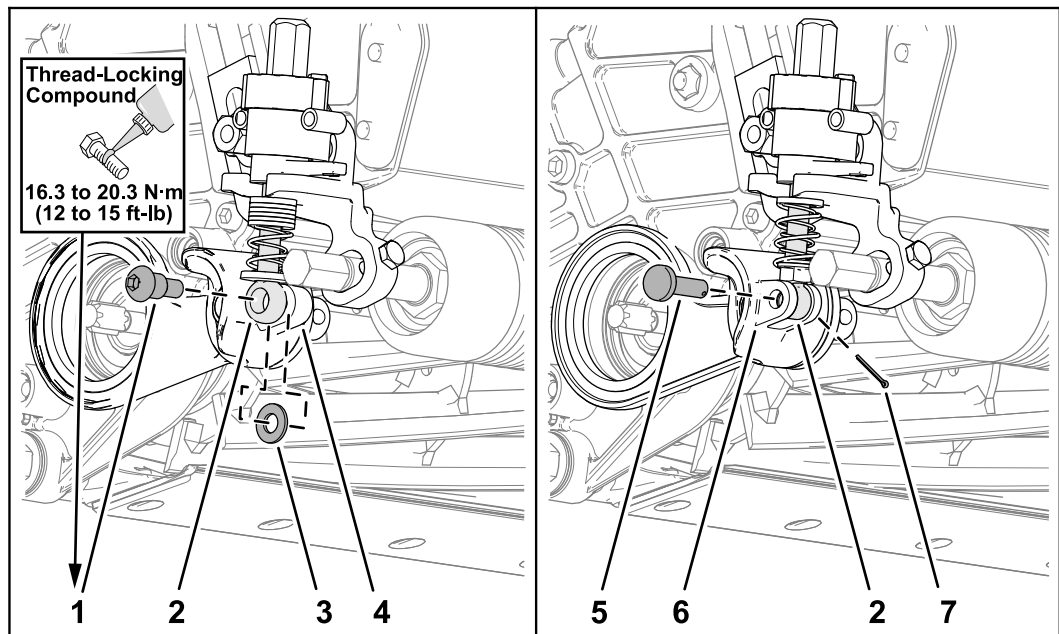

Figure 127
2. Assemble the eye bolt of the groomer adjuster to the idler plate (Figure 127) as follows: